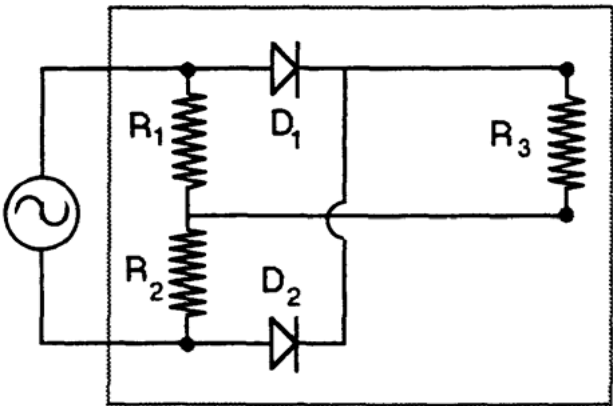

Figure 5: The equivalent circuit with both diodes in the circuit.
15. Jumper the other diode,  $D_2$ , into the circuit and repeat step 13. Figure 5 shows the equivalent circuit.